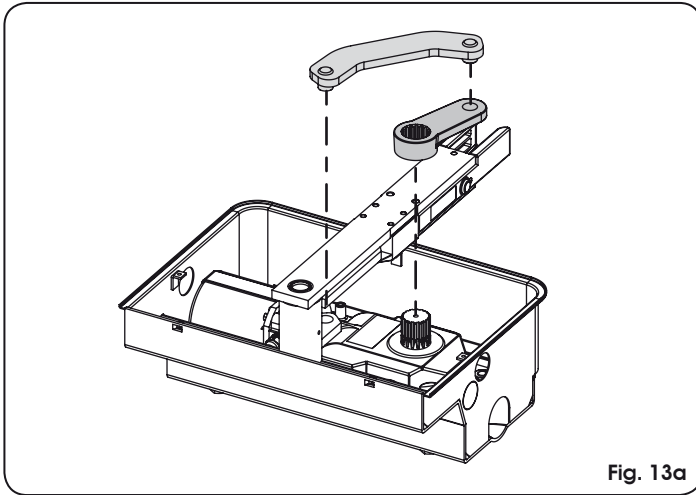

Fig. 13a
- Place the operator on the fastening screws on the foundation box, and fix it by means of the nuts and washers supplied (fig. 13a and 13b).
- Manually close the leaf and fit the driving levers supplied, as shown in Fig. 13a.